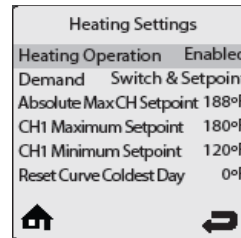

Fig. 8: Heating Settings
1. Remove the screw holding the metal shipping bracket in place as shown in Fig. 8
The display module comes preinstalled in the front red display enclosure as shown in Fig. 8.